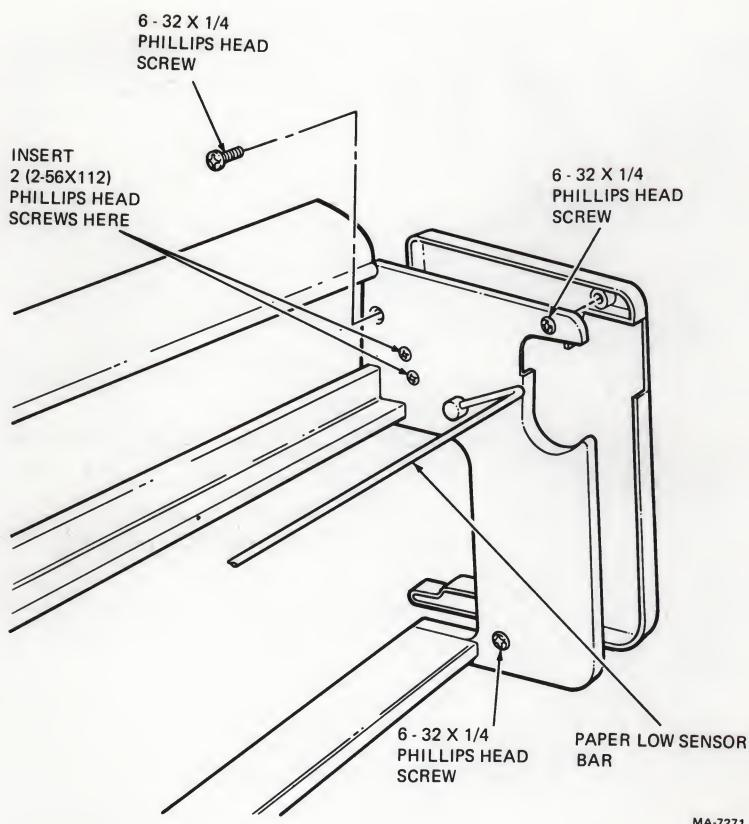
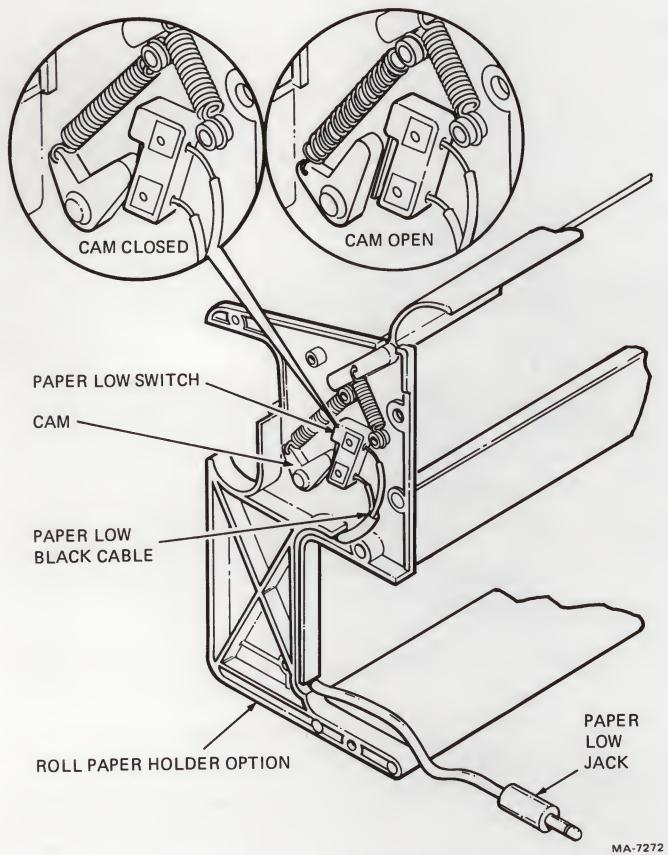

Figure 8-10 Roll Paper Holder Cover Cap
Figure 8-11 Paper Low Switch Installation
19. Using a #1 Phillips head screwdriver, remove the three Phillips head screws ($6\text{-}32 \times 1/4$) that secure the right roll paper cover cap (viewed from the back) to the roll paper holder. Set the cap aside (Figure 8-10).
20. Insert the two flat head Phillips screws ($2\text{-}56 \times 1/2$) through the inner side of roll paper holder (Figure 8-10).
21. Assert downward pressure on the paper low sensor bar shown in Figure 8-10 to open the cam assembly as shown in Figure 8-11.
23. Secure the paper low switch using two tinnerman nuts (Figure 8-11).
24. Route the paper low jack cable through the paper holder assembly (Figure 8-11).